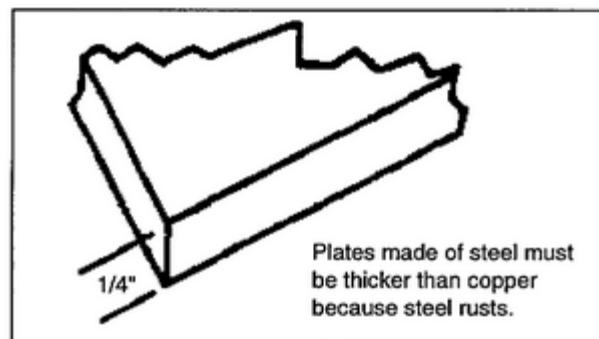

Figure 1-18. Iron or steel grounding plate
- a. Iron or steel grounding plates must be at least 1/4 inch thick (Figure 1-18)